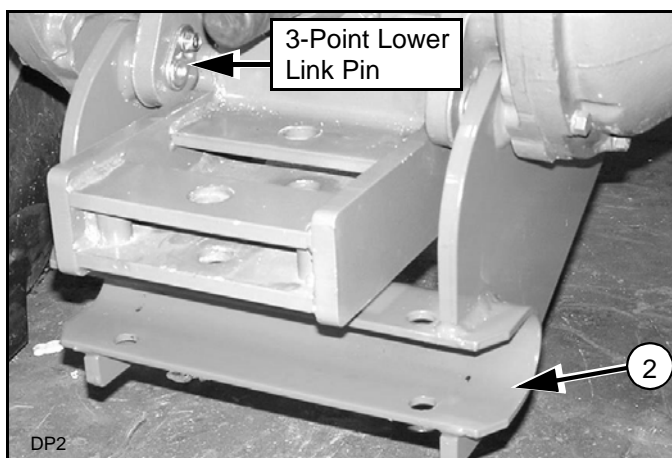

Figure 8 Rear Mount Installed
2. Pivot rear mount upward and secure to tractor with 3-point lower link pins and hardware (Figure 8).
- Figure 8 is shown with PTO shield removed for clarification. Only remove PTO shield for modifications described on 5.